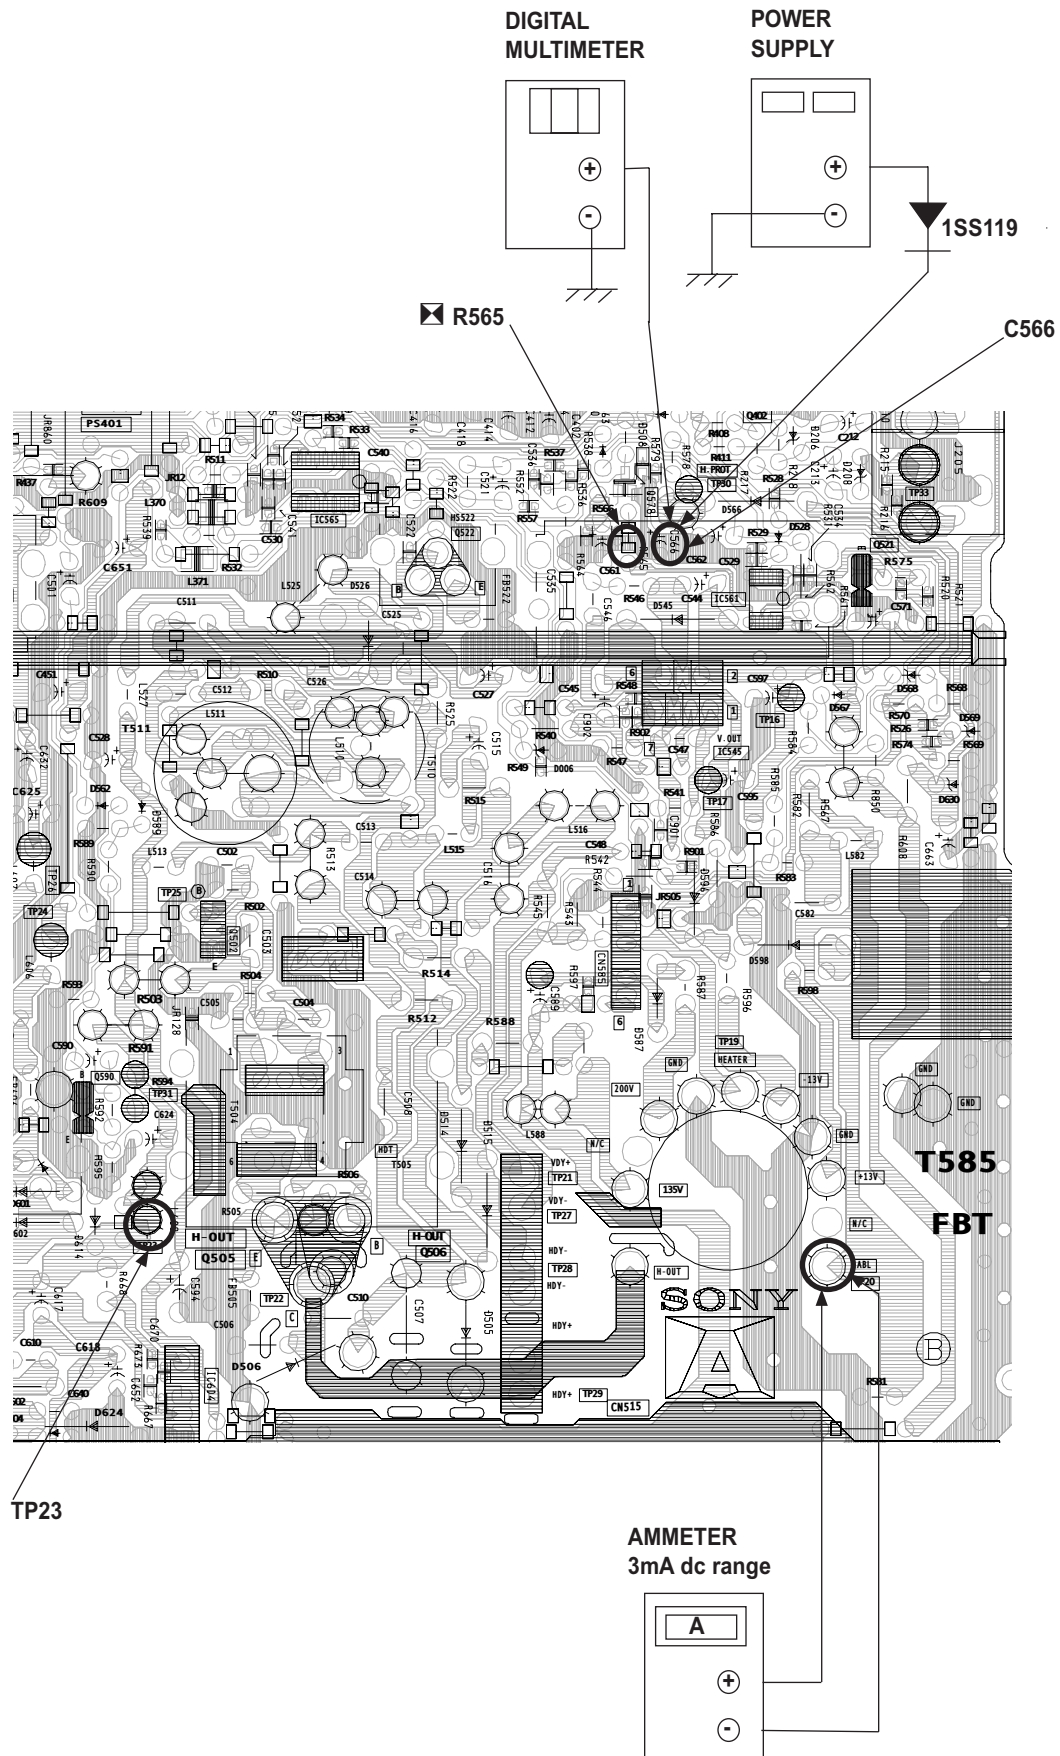

Figure 1
1. Connect the current meter between Pin 11 of the FBT (T585) and the PWB land where Pin 11 would normally attach (See Figure 1 on the next page).
4. Connect the digital voltmeter and the DC power supply via Diode 1SS119 to C566 (+) and ground (See Figure 1 on next page).